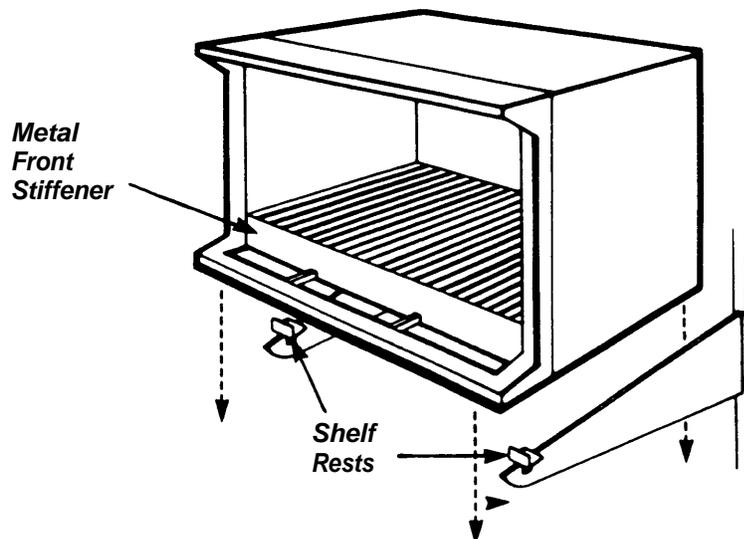

Figure 7.
3. Set the control unit cabinet on the brackets so that the metal front stiffener rests on the rubber cushions (Figure 7).